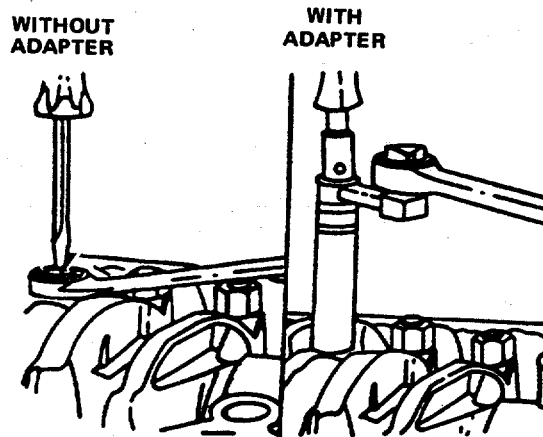

FIGURE 3-24. Torque Methods.
- (1) Turn the adjusting screw clockwise or counterclockwise to adjust the injector plunger to 0.228 inches.
- (m) Hold the adjusting screw in this position. See FIGURE 3-24 . The adjusting screw must not turn when the lock nut is tightened. Tighten the lock nut to the following value:
- (e) Hold the adjusting screw in this position. The adjusting screw must not turn when the locknut is tightened to its torque value (FIGURE 3-24). Tighten the locknut to the following value: